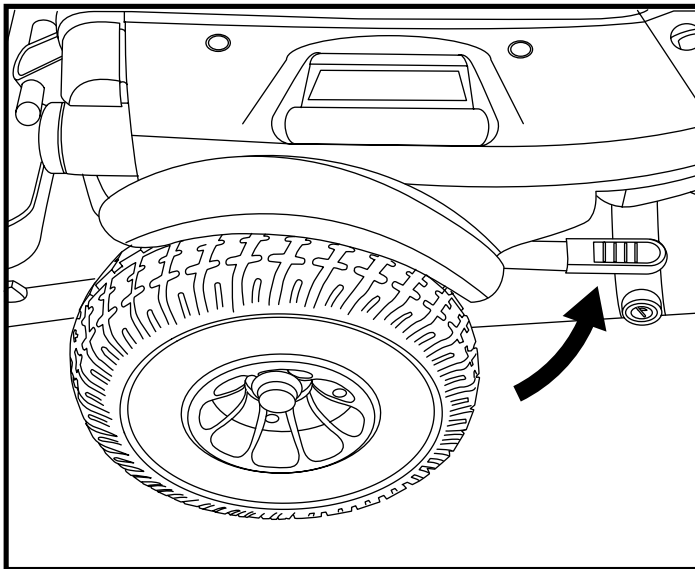

Figure 9. Drive Mode (Drive Engaged)
2. Push the two levers inward to engage the drive motors (drive mode). See figure 9.